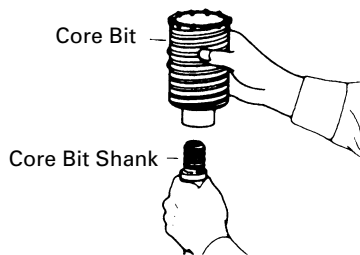

Fig. 10
- (1) Mount the core bit to the core bit shank. (Fig. 10)